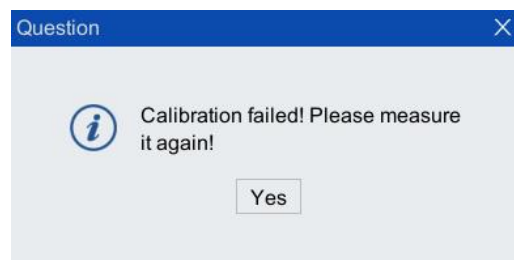
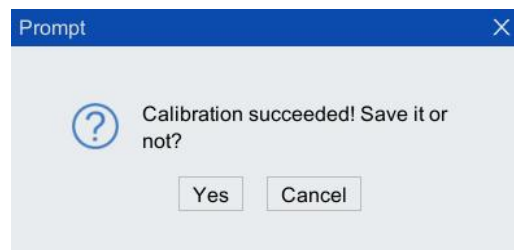
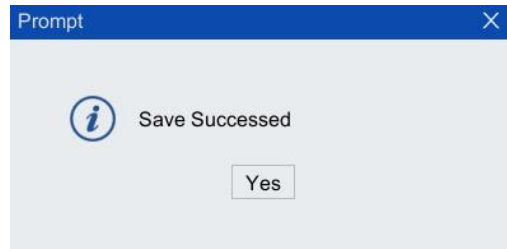

Figure 5-66 "Calibration failed, please measure it again!" prompt dialog box
Figure 5-67 "Calibration succeeded, save it or not?" prompt dialog box
Figure 5-68 "Save succeeded" prompt dialog box
**Step4.** After all the calibrations are successful, click the <Calculate> button at the bottom of Figure 5 65 to calculate the error. If it exceeds the error range, the "Calibration failed, please re-measure!" prompt box as shown in Figure 5-66 will pop up. Then you need to re-calibrate until the error is within the allowable range; if the error is within the allowable range, the "Calibration is successful, save?" prompt dialog box as shown in Figure 5-67 will pop up, click the <Yes> button, and the figure will pop up 5 The "Save successfully" prompt box shown in Figure 5-68 will complete the calibration.